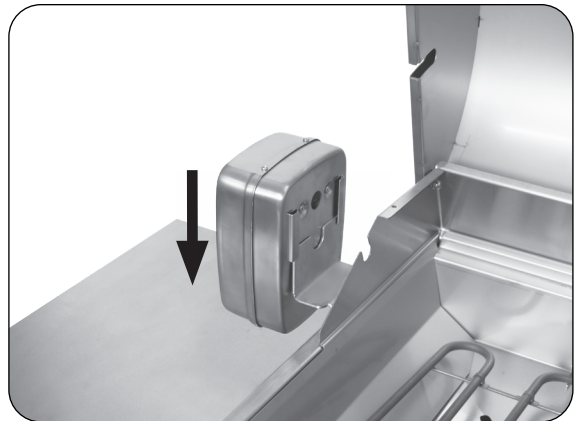

Fig. 18-3 Install rotisserie motor
3. Slide the rotisserie motor fully onto the motor bracket located on the left side of the grill (Fig. 18-3).